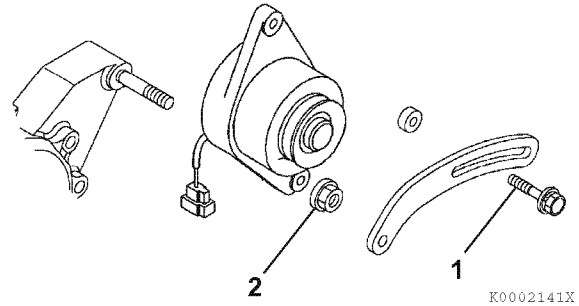

Figure 11-30
1. Position the dynamo on the gear case. Loosely reinstall the nut (Figure 11-30, (2)) on the gear case stud and the V-belt adjuster bolt (Figure 11-30, (1)).